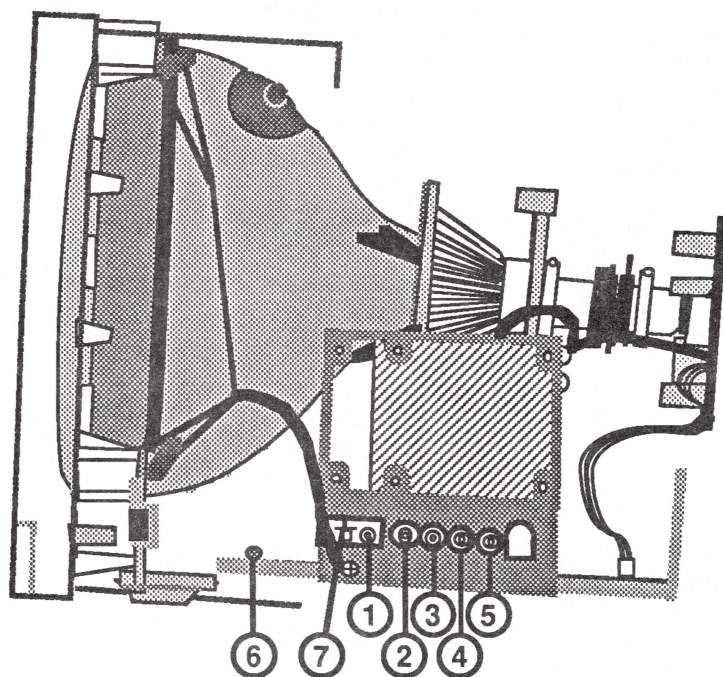

FIGURE 6
- b. **B-DRIVE** (blue) - Figure 6, #2
- c. **R-BIAS** (red) - Figure 6, #3
- d. **G-BIAS** (green) - Figure 6, #4
- e. **B-BIAS** (blue) - Figure 6, #5
- f. **SUB-BRIGHTNESS** - Figure 6, #6
13. Position the **SERVICE** switch (SW800) lever (Figure 6, #7) so that the lever points toward the picture tube at a 45° angle. The screen should now display a single horizontal line. Note the hue of the single horizontal line on the display screen. It must be adjusted so that it is white (neutral). No predominant color (red, blue, or green) should be visible. If the line is white, skip to step 16. However, if a predominant color is present within the horizontal line, proceed to step 14.
16. Set the **SERVICE** switch (Figure 6, #7) back to its original position (with the lever pointing towards the back of the monitor).
21. Adjust the **SUB-BRIGHTNESS** control (Figure 6, #6) so that the background on the display screen is black (no grain or grid is showing). Adjusting the **SUB-BRIGHTNESS** control in the clockwise direction increases the screen brightness level.